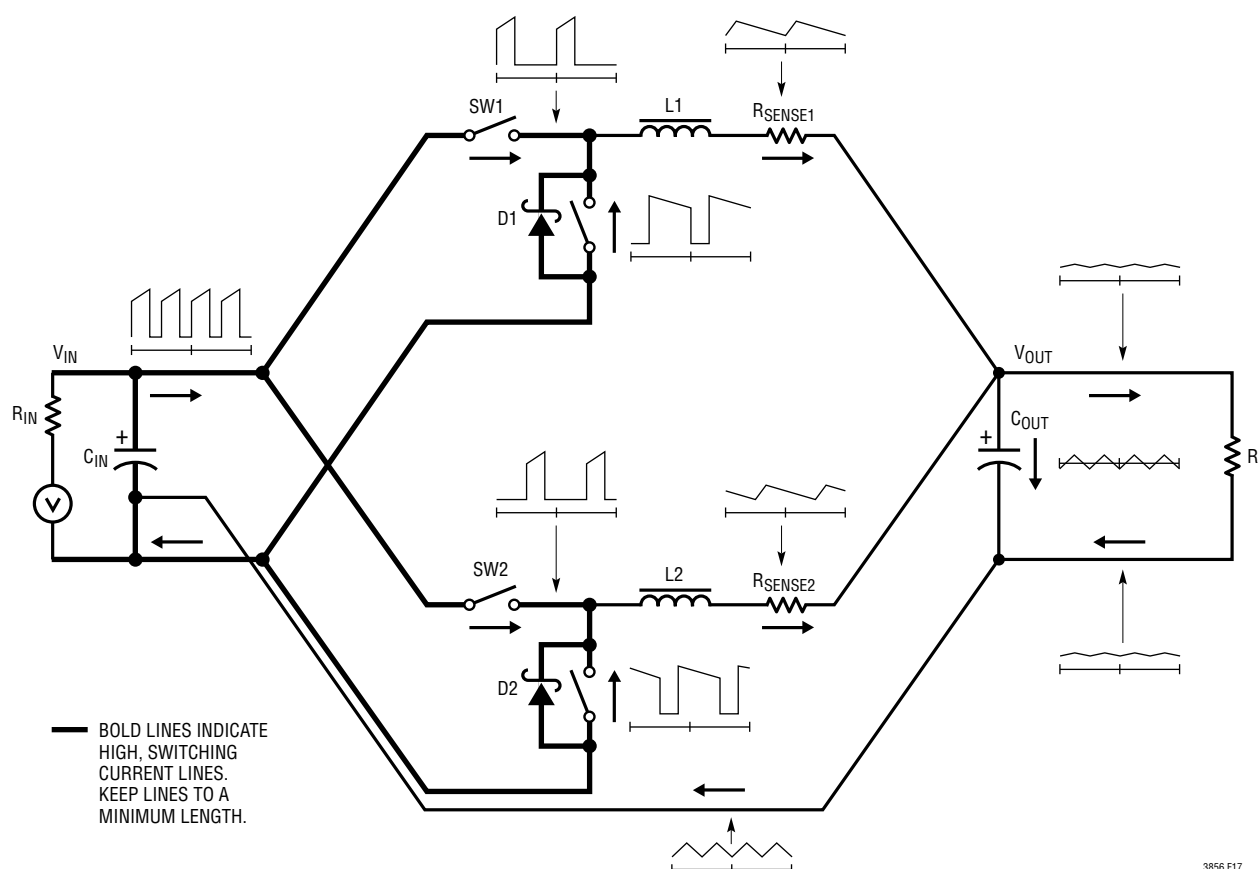

Figure 17. Instantaneous Current Path Flow in a Multiple Phase Switching Regulation
When laying out the printed circuit board, the following checklist should be used to ensure proper operation of the IC. These items are also illustrated graphically in the layout diagram of Figure 17. Check the following in the PC layout:
7. The 47pF to 330pF ceramic capacitor between the  $I_{TH}$  pin and signal ground should be placed as close as possible to the IC. Figure 17 illustrates all branch currents in a 2-phase switching regulator. It becomes very clear after studying the current waveforms why it is critical to keep the high switching current paths to a small physical size. High electric and magnetic fields will radiate from